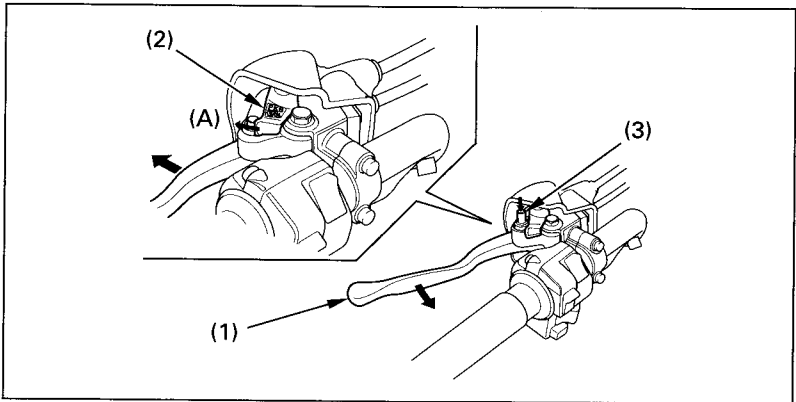

Fig. 2-13 (1) Clutch lever/
The clutch lever also functions as the parking brake lever (Fig. 2-13). To apply the parking brake, push down the parking brake pin (3), squeeze the clutch lever (1) and lock it with the lock (A). Always apply the parking brake when parking the FOURTRAX or starting the engine. To release the parking brake, squeeze the clutch lever (1) so the lock (2) automatically retracts.